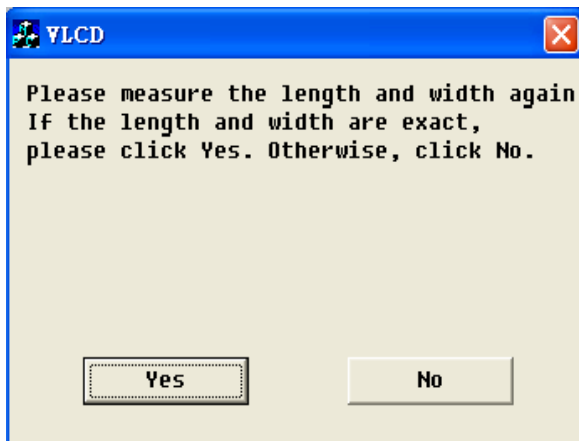

Figure 3-7
Step 3 After pressing **OK**, the cutting plotter will cut the 100mm² rectangle again and the following dialog will pop up(Figure 3-7). Measure the real cutting width and length. If it is a 100mm² rectangle, press **YES**. If not, press **NO**, and repeat the above steps until you get a 100mm² rectangle.
Step 4 To save the setting onto flash ROM by following Figure 3-7 3-8, 3-9, and 3-10.